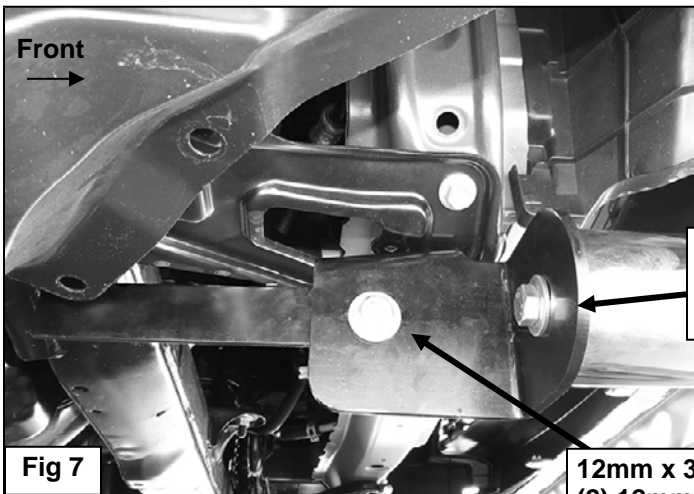
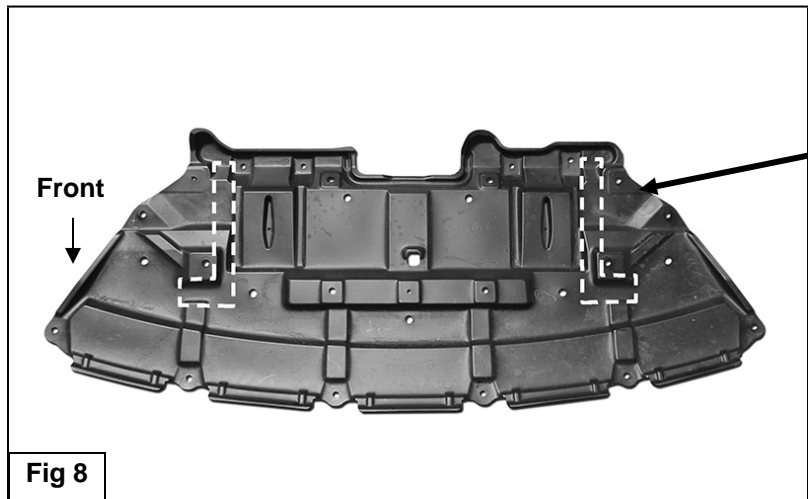

Fig 7
Fig 8
- Select the passenger side Support Bracket, **(Figure 6A)**. Attach the end with the bent tab to the Bolt Plate, (see **Step 4**), with the included (1) 12mm x 32mm STD Flat Washer and (1) 12mm Nylon Lock Nut, **(Figure 6B)**. Attach the flat end of the Support Bracket to the inside of the Mounting Bracket using the included (1) 12mm x 30mm Hex Bolt, (2) 12mm Flat Washers and (1) 12mm Nylon Lock Nut, **(Figure 7)**. Do not tighten hardware at this time. .
- With assistance, position the Bull Bar up to the Mounting Brackets. Attach the Bull Bar to the Mounting Brackets using the included (2) 12mm x 45mm Hex Bolts, (2) 12mm Lock Washers and (2) 12mm Flat Washers, **(Figure 7)**.
- Level and adjust the Bull Bar properly and tighten the (2) 10mm Hex Bolts attaching the Mounting Brackets to the crossmember only at this time. Temporarily remove the Bull Bar and Support Brackets.
- Hold the factory plastic splash guard up in its original mounting position and trace the location of the (2) Mounting Brackets and the (2) Bolt Plates onto the inside of the splash guard, **(Figure 8)**. Use a sharp knife or hacksaw blade to cut out the traced area for the Mounting Brackets. **IMPORTANT:** To maintain